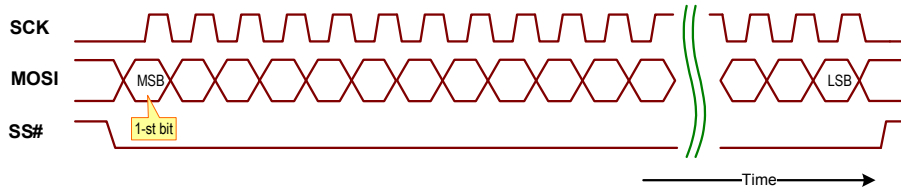
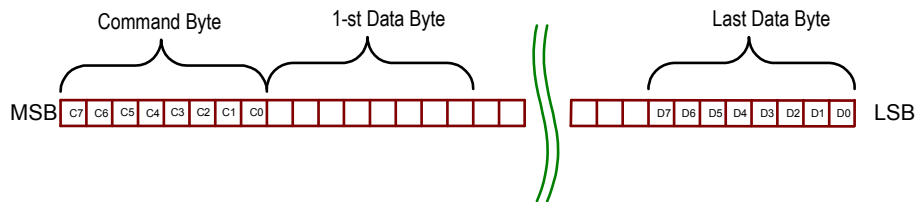

Figure 19: LNO SPI writing cycle diagram
Figure 20: Command and data bytes
LNO SPI commands consist of one command byte $C[7:0]$ following by N data bytes. Number of data bytes (N) depends on the particular command. Data on LNO_MOSI signal line are latched on rising edge of LNO_SCK signal as shown on figure 19. MSB (Most Significant Bit) is loaded first, LSB (Least Significant Bit) – last. The first is the command byte $C[7:0]$ all other bytes are data (fig. 20). The command byte works as the address for multiplexer implemented in CPLD and defines the destination where to transfer following data – to one of the SPI channels or to one of the static registers, and the type of operation – writing or reading.